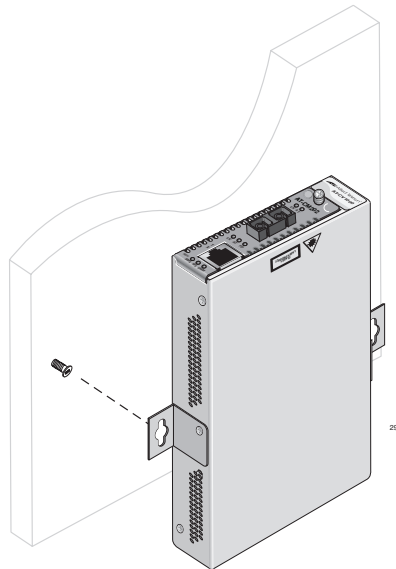

Figure 9. Installing the Plastic Anchors and Screws Onto the Wall
6. Install two plastic anchors and two screws onto the wall, as illustrated in Figure 9.